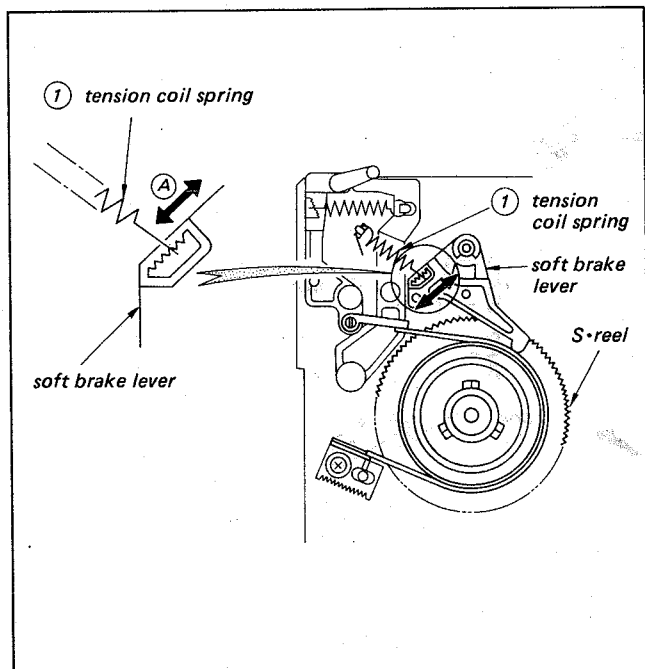

Fig. 3-31. Soft Brake Adjustment-2
- 2) Adjust by moving the tension coil spring ① in the direction of the arrow A until the sector type gauge reading is 8 g when the FF mode is set up. (See Fig. 3-31)